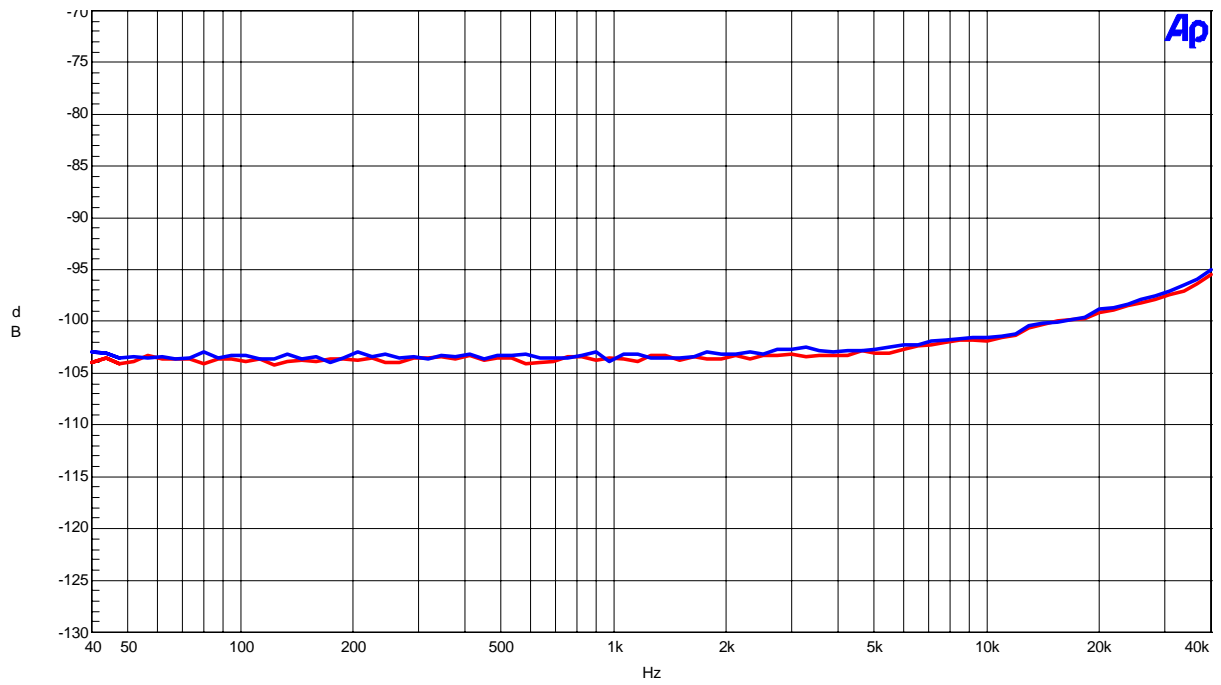

Figure 26. Cross-talk (Input Level=0dBFS)
- Figure 26. Cross-talk (Input Level=0dBFS)